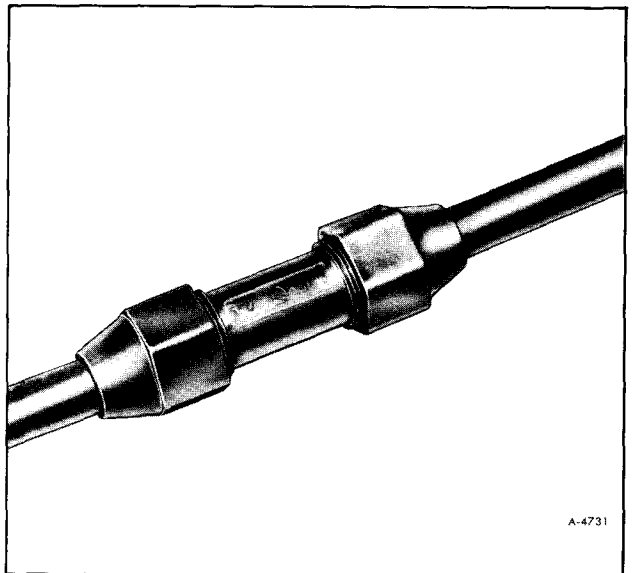

Figure 55—Typical Plumbing Line Repair
4. Assemble the flare insert and coupling to the line so that the repaired line appears the same as that in Figure 55.